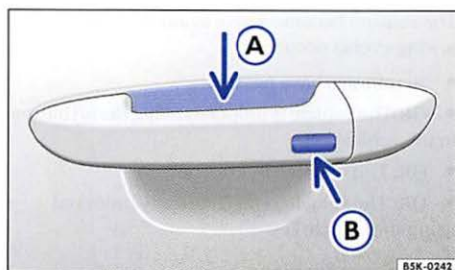

Fig. 20 KESSY lock and start system: Outer button on front door handle.
- Grasp the door handle of the driver or front passenger door $\Rightarrow$ fig. 20 (arrow A).
- Operate the outer button in door handle $\Rightarrow$ fig. 20 (arrow B) *once*. The door on which the handle is operated must be closed.